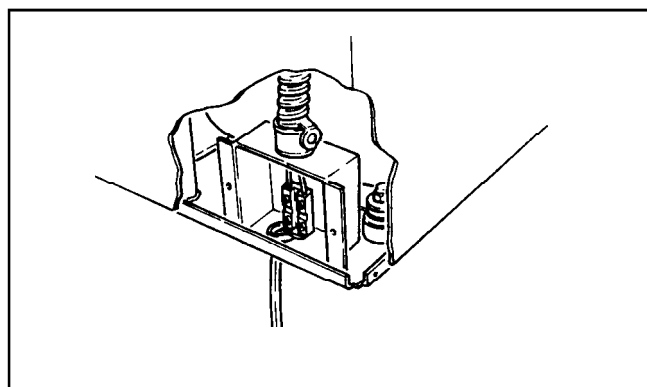

Figure 4
- After you remove the panel on the left side of the machine, the wiring connection box can be found on the bottom of the frame and is labeled "Connect Power Line Here" (ref. Fig. 4).
- In all installations, the machine must be properly grounded. Because all high voltage components (the controls are 24 volts) are connected with flexible conduit or cord, adequate ground continuity is assured by running and fastening a ground line to the machine junction box ground lug (ref. Fig. 4).